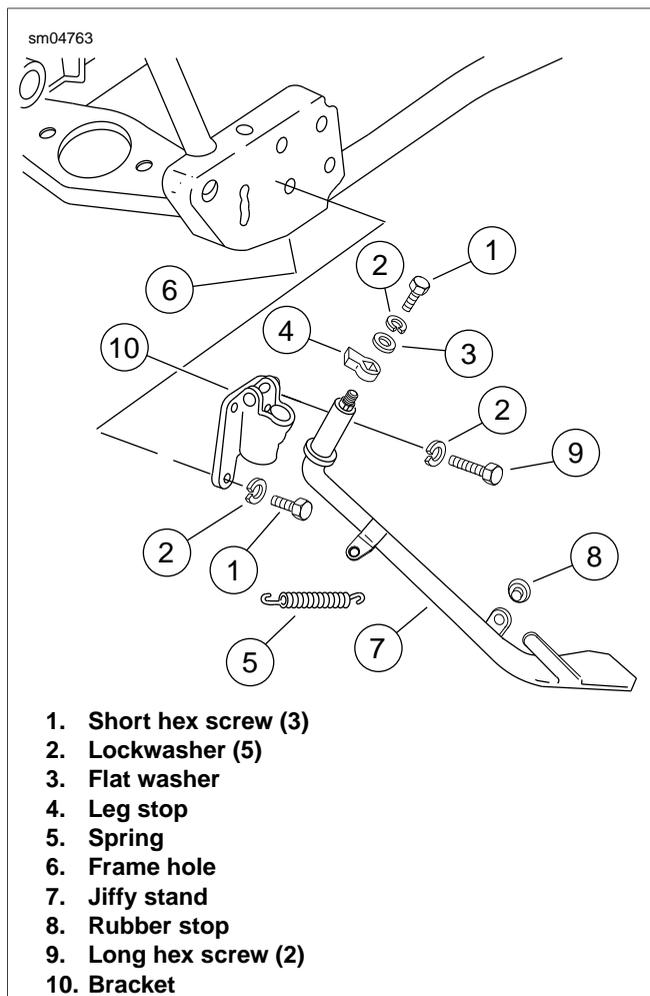

Figure 2-180. Jiffy Stand Assembly
- Remove two short hex screws (with lockwashers) to release front of jiffy stand bracket from frame weldment. See Figure 2-180.